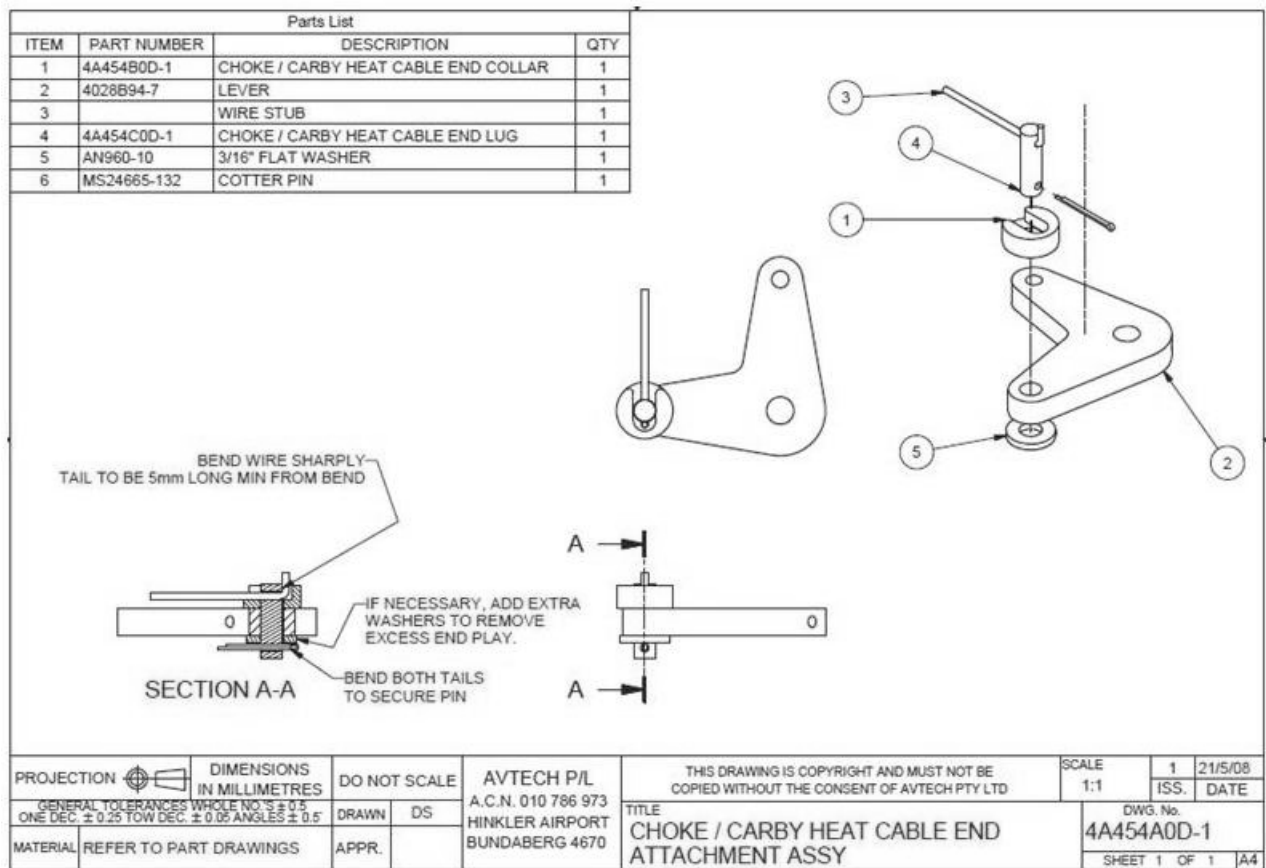

Figure 95 – Control Cable End Fitting Installation
- To remove the cable end fitting, remove the cotter pin (Figure 95). Note that for older aircraft the soldered end fitting must be heated (with a powerful soldering iron or small gas burner) and removed when the solder melts.